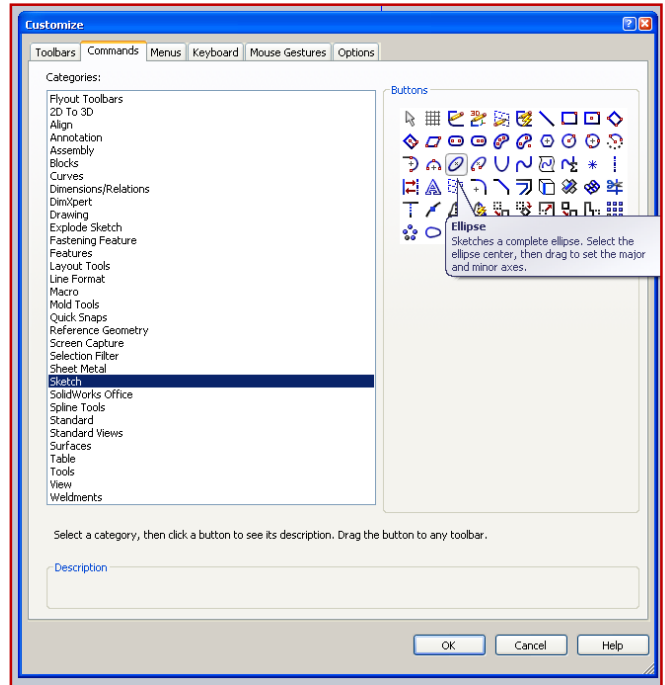

Figure 2.3 – View → Toolbars → Customize → Commands → Sketch → Ellipse
Step 5: The commands in a toolbar can be changed. Click **Options**→**Customize** and then select the **Commands** tab to get the menu in Figure 2.3. This is a list of all the toolbars in SolidWorks. They are called **Categories** on this menu.
Step 6: In the **CommandManager**, click the tab **Sketch** to show the sketch commands. Next, on **Options** → **Customize** → **Commands** → **Sketch** in Figure 2.3, locate the **Ellipse** tool. Click and drag it to the **Sketch** toolbar in the **CommandManager** and click OK. This will add the new command.